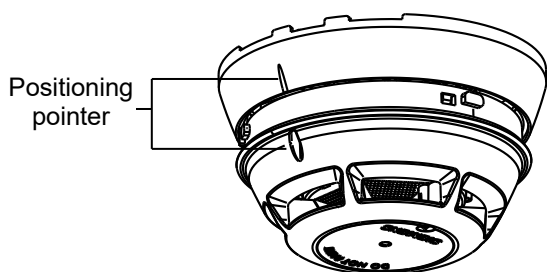

Fig. 1
- Easy, time-saving and high-quality mounting (Fig. 1)**